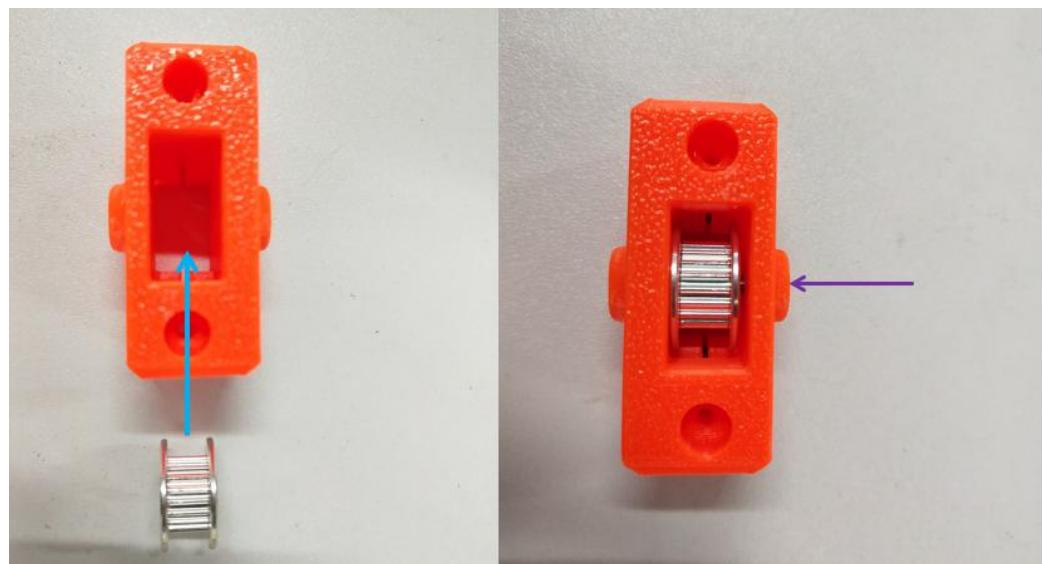

Figure 2.9.4
**Step 2-9-3:** as shown in Figure 2.9.4